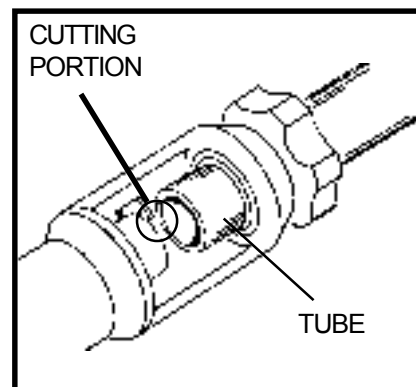

Figure 2
1. Place tool bit into tool slot. Position for desired work dia. Check tool bit alignment with end of tube. Tool should be as far from center as possible (Figure 2).